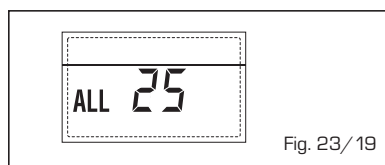

Fig. 23/19
- AUXILIARY SENSOR ANOMALY (S3) "ALL 26" (fig. 23/20)